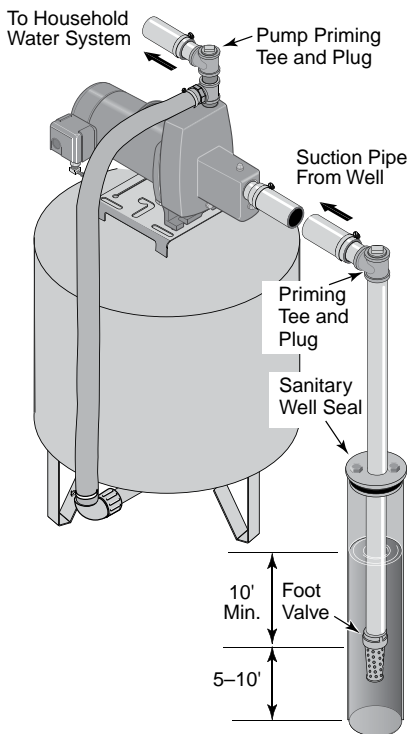

Figure 2: Cased Well Installation
Cased Well Installation, 2” or Larger Casing (Figure 2)
2. Assemble the foot valve, strainer, and well pipe (see Figure 2). Make sure that the foot valve works freely.
4. Install a priming tee, priming plug, and suction pipe to the pump (see Figure 2). Connect the pipe from the well to the pump suction port, using the fewest possible fittings – especially elbows – as fittings increase friction in the pipe (however, include a foot valve – see Figure 2). The suction pipe should be at least as large as the suction port on the pump. Support the pipe so that there are no dips or sags in the pipe, so it doesn't strain the pump body, and so that it slopes slightly upward from the well to the pump (high spots can cause air pockets which can air lock the pump). Seal the suction pipe joints with Teflon™ tape or a Teflon™ based pipe joint compound. Joints must be air- and water-tight. If the suction pipe can suck air, the pump cannot pull water from the well.